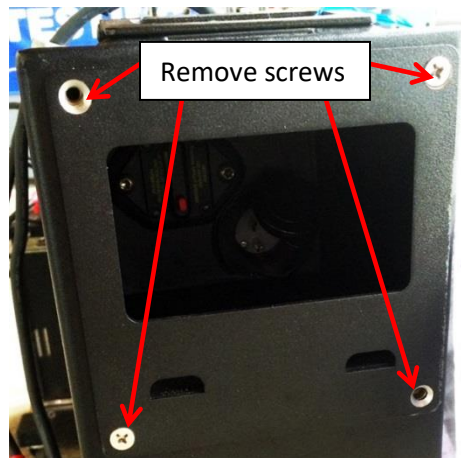

Figure 1: Cable storage box. Remove the (4) screws to pull the box out of the battery enclosure.
1. Prior to removing the outer case, first remove the power cable storage box shown in Figure 1. The power cable storage box can be removed by unscrewing the (4) countersunk Philips head screws.